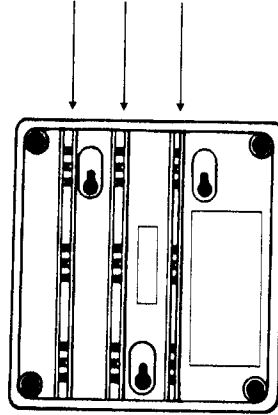

Figure 2-11 Cable Routing Channels
1. Turn the TRANZ 330 terminal upside down and locate the cable channels. (See Figure 2-11.)